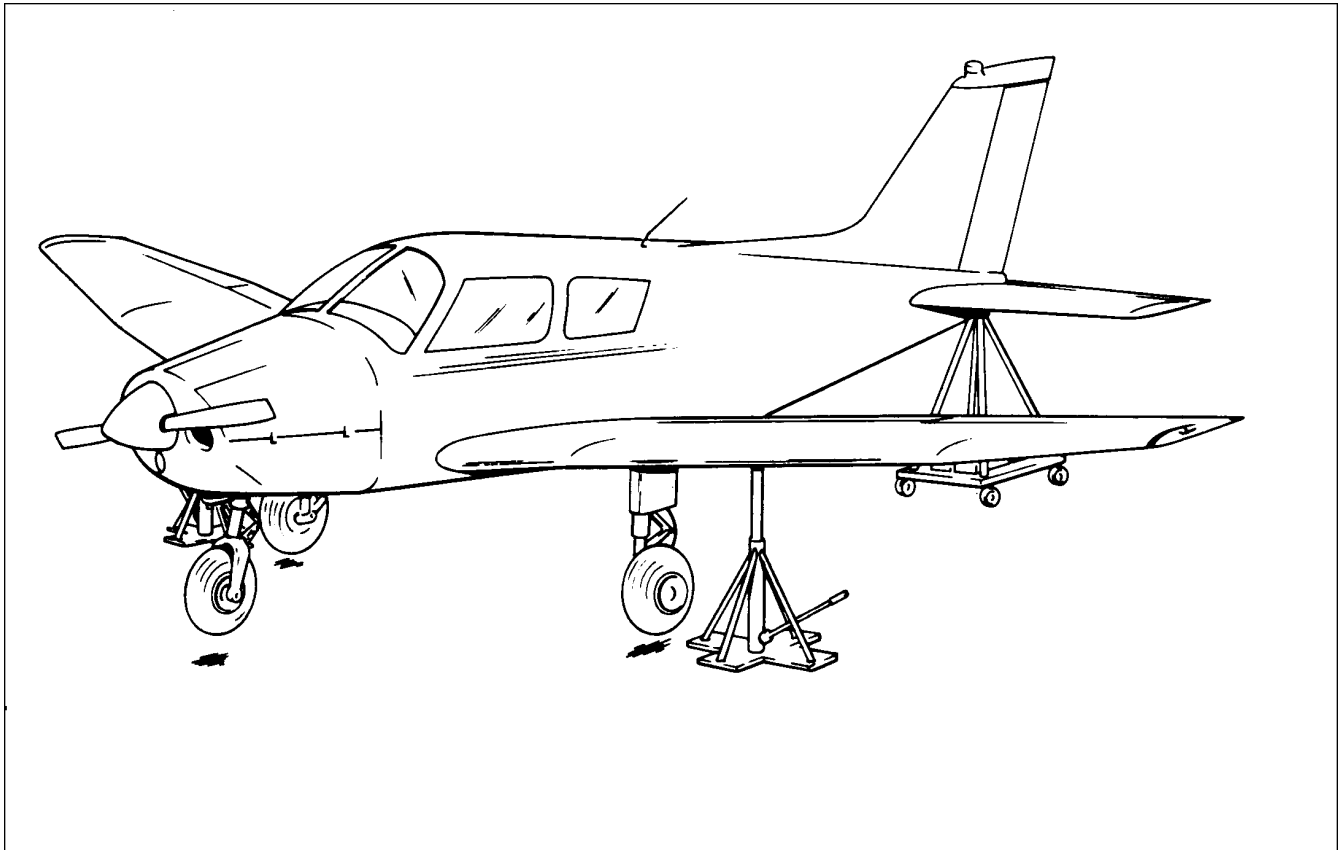

Figure 2-4. Jacking Arrangement
- a. Place jacks under jack pads on the front wing spar. (Refer to Figure 2-4.)